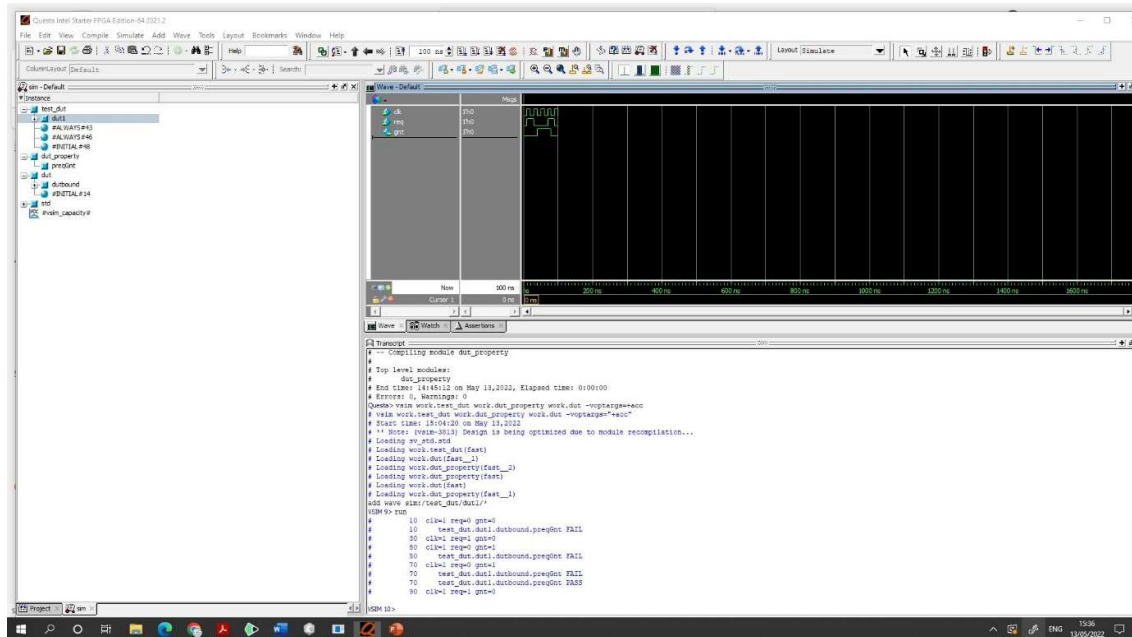

Fig. 13. Simulated DUT. See also the simulator transcript window at the bottom and the related reports.
- Click on the Run icon and you can simulate your circuit for 100 ns or, whichever, other option you prefer (Fig. 13 in Appendix).